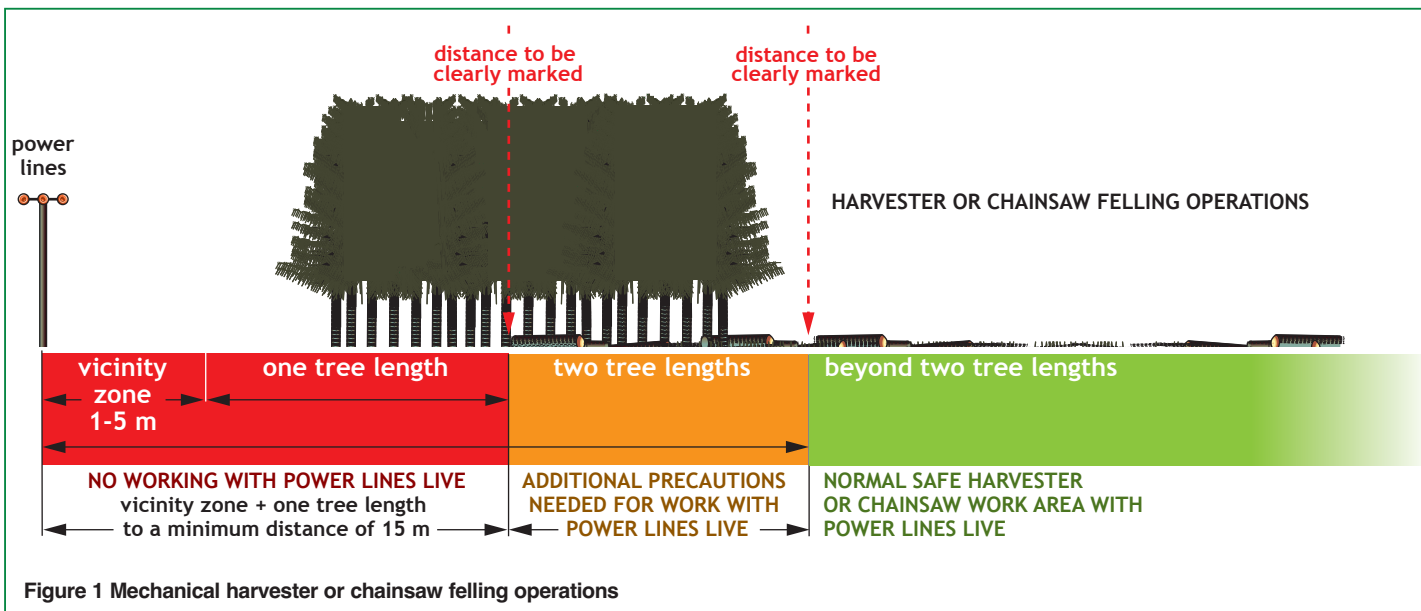

Figure 1 Mechanical harvester or chainsaw felling operations
- ❑ **17** You must not undertake any felling work (using a mechanical harvester or chainsaw) within two tree lengths of overhead lines (see Figure 1) without consultation between the site manager and the electricity company.
- No trees to be felled if any part of the machine or the tree can come **within one tree length + the vicinity zone** (down to a minimum distance of 15 m) of an energised overhead power line (see Figure 1). The vicinity zone will vary between 1 and 5 m depending on the line voltages (see Table 1).
19 Clearly mark the limit of normal working (**two tree lengths**) and the limit of work with the overhead lines energised (**one tree length + the vicinity zone**). Marked trees, high-visibility tape or another suitable marking method should be used as well as organised felling and extraction routes (see Figure 1).